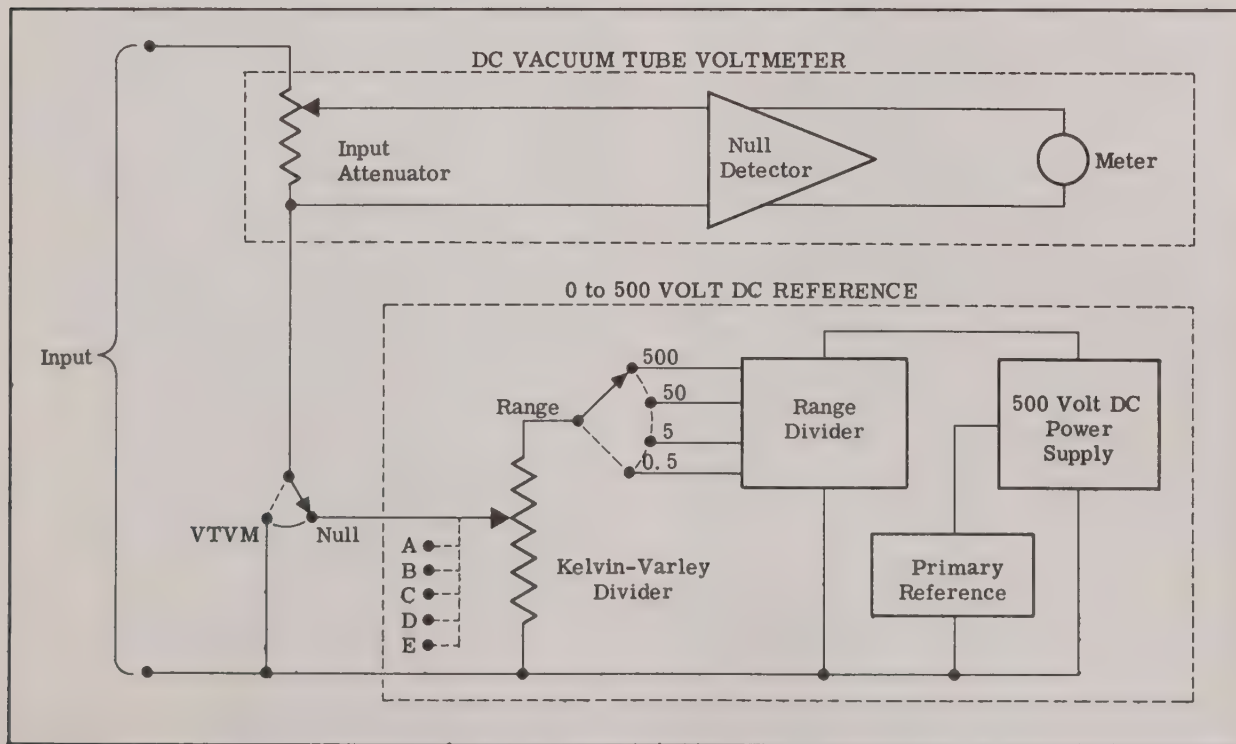

Figure 3-1. 825A DIFFERENTIAL VOLTMETER BLOCK DIAGRAM
a. Figure 3-1 shows the block diagram for the 825A Differential Voltmeter. As seen in this figure, the circuit is mainly composed of a sophisticated DC vacuum tube voltmeter (vtvm) and an extremely accurate 0 to 500 volt reference. The vtvm uses a null detector, an input attenuator, and a meter to obtain high sensitivity. The 0 to 500 volt reference uses a range divider and a Kelvin-Varley attenuator to make the output of a well regulated 500 volt DC power supply adjustable. Refer to the functional schematic following Section VI for more detail. This schematic is designed to aid in the understanding of circuit theory and troubleshooting. The signal flow is from left to right and the components are laid out in a functionally logical manner.